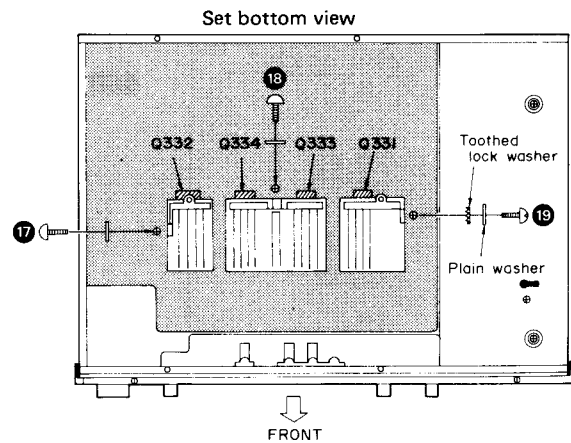

Fig. 10
2. Remove the 7 setscrews (17 ~ 23 in Fig. 10 and 11) of heat-sink and then lift the heat-sink along with the power transistor.